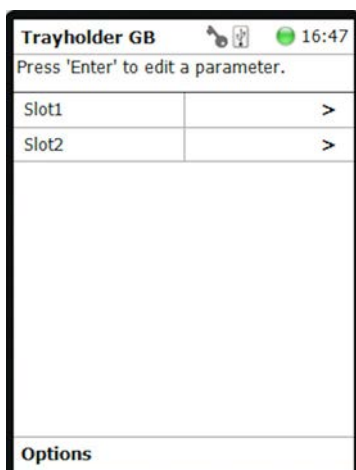

Figure 5-32. Selecting Slot1 or Slot2
Figure 5-32. For example, the set points for the GasBench Tool 55 and GasBench Tool 120 for the 12 mL non-thermostatted tray are 43.1 / 50.3 / 392.3 for pos. 1, 43.1 / 232.2 / 392.3 for last pos. Y, and 716.4 / 232.2 / 392.3 for max. tray pos.
Figure 5-32 appears.